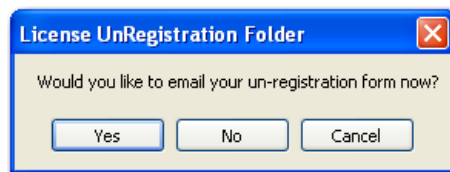

Figure 9 Unregister
3. Click **OK** and Figure 9 appears.